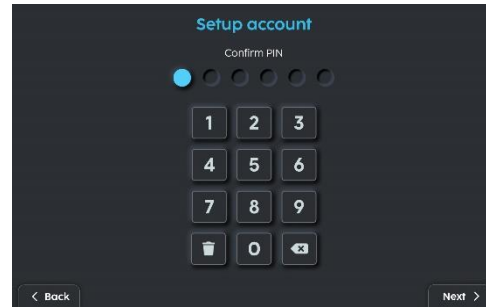

Fig. 6
6. Confirm your password (Fig. 6).